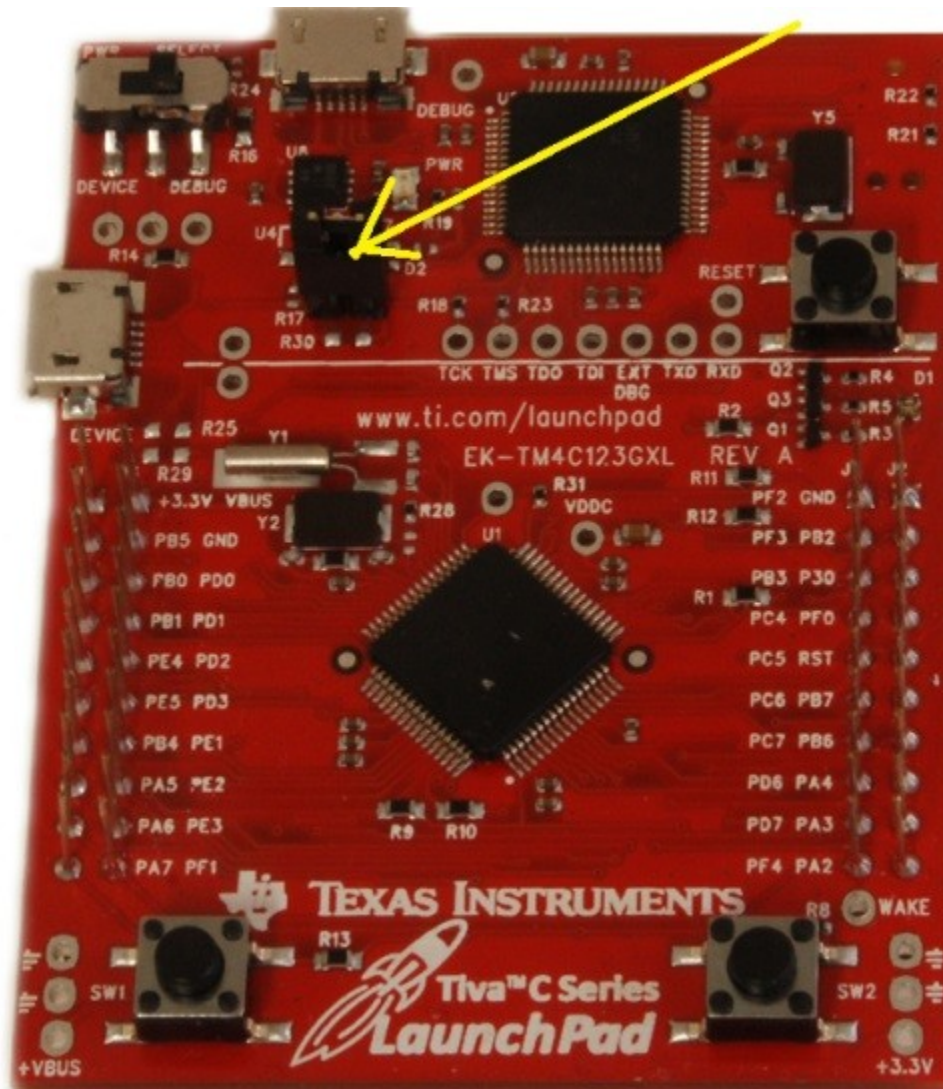

Figure 3.4. Use a current meter to measure current required to run the clock.
4. Measure the 3.3V supply current. Remove the jumper on the LaunchPad (see Figure 3.4) and connect a DC current meter across the pins. Double check the connections before turning it on. If you are at all unsure about this measurement, ask your TA for help. Measure the required current to run the alarm clock. Take a measurement with and without the alarm sounding. *Remember these numbers; they will be valuable when you design your project in Labs 6 and 7.*